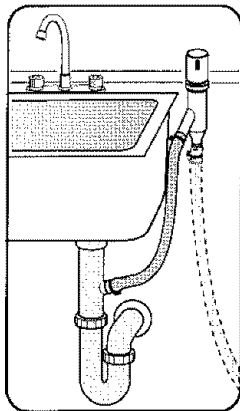

Figure 10
- 3 To the undersink dishwasher drain connection through an air gap, as shown in Figure 10.